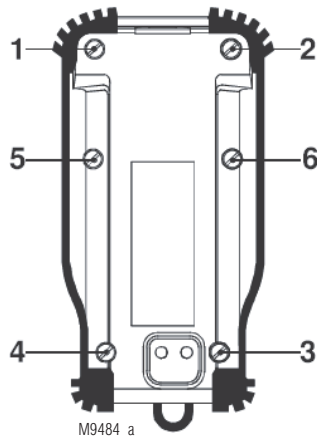

fig. 2
9. Tighten the enclosure screws in the order shown in fig. 2. This ensures proper sealing.